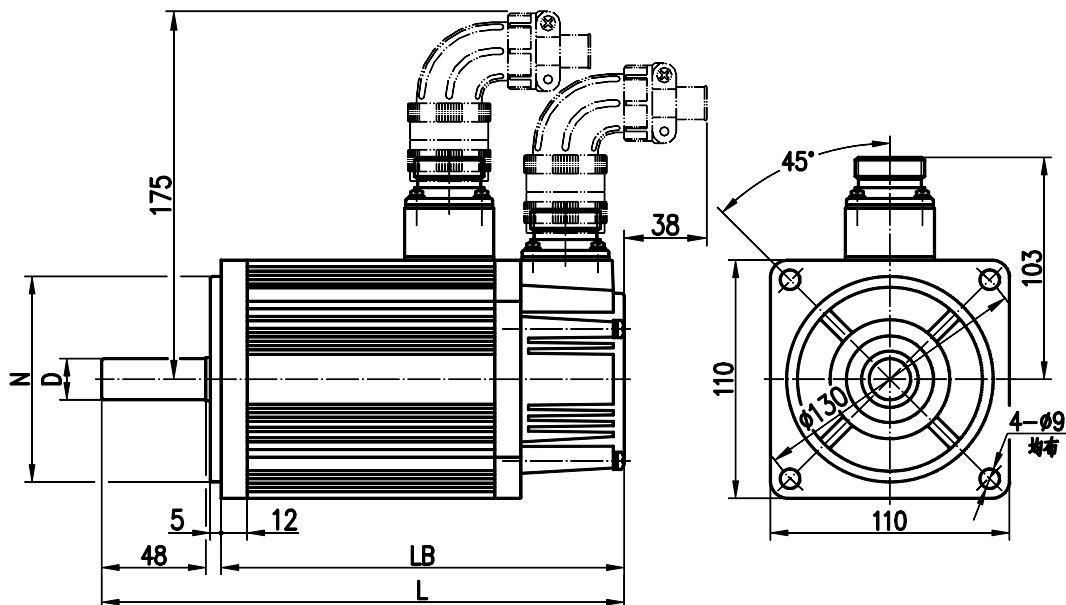

Fig. 1
6.1 See Fig.1 and Table 3 about the installation dimensions of 110SJT